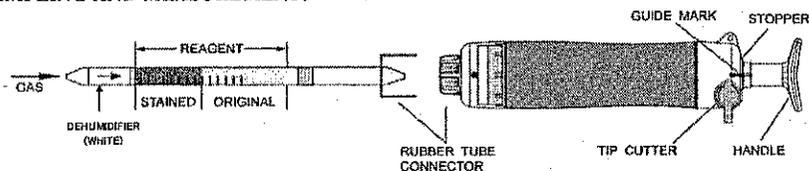

Fig.1
- ② Insert the detector tube into the aspirating pump securely as shown in Fig.1 (Arrow mark shall point to the pump.)
- ③ Align the guide marks on the shaft and stopper of the aspirating pump.
- ④ Pull the pump handle at a full stroke until it locks and wait for 1.5 minutes or until the completion of sampling is confirmed with the flow indicator of the pump (See descriptions about the flow indicator in the instruction manual of the pump).
- ⑤ On completion of sampling, read the scale at the maximum point of the stained layer.
- ① Temperature; Correct the tube reading by following temperature correction table.